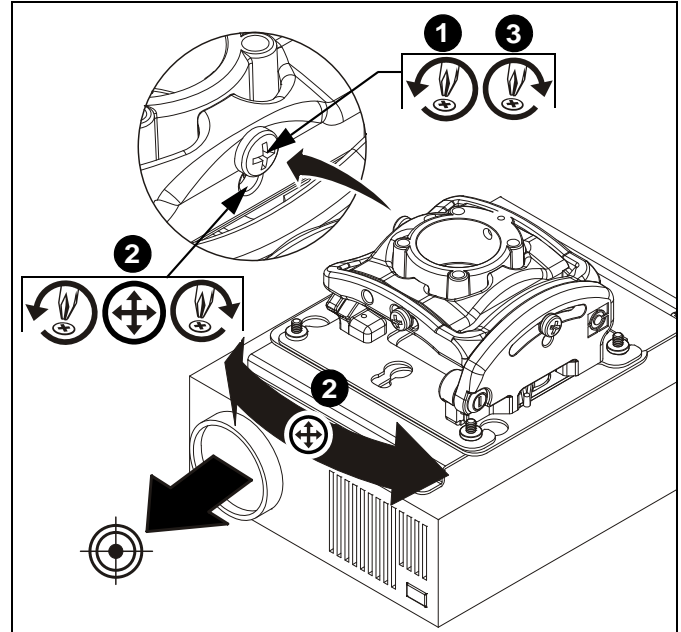

Figure 9
1. Loosen YAW adjustment locking screw using a #2 Phillips screwdriver. (See Figure 9)